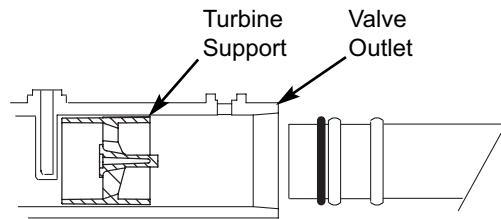

FIG. 6
- c. Be sure the turbine support is in place in the valve outlet, as shown in Figure 6.